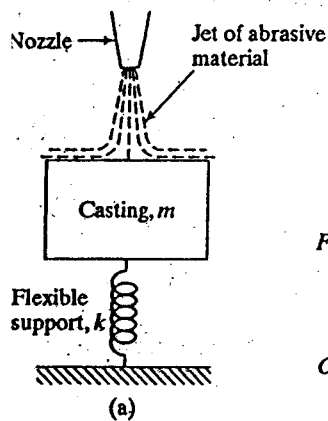

FIGURE 4.36
4.15 Sandblasting is a process in which an abrasive material, entrained in a jet, is directed onto the surface of a casting to clean its surface. In a particular setup for sandblasting, the casting of mass m is placed on a flexible support of stiffness k as shown in Fig. 4.36(a). If the force exerted on the casting due to the sandblasting operation varies as shown in Fig. 4.36(b), find the response of the casting.